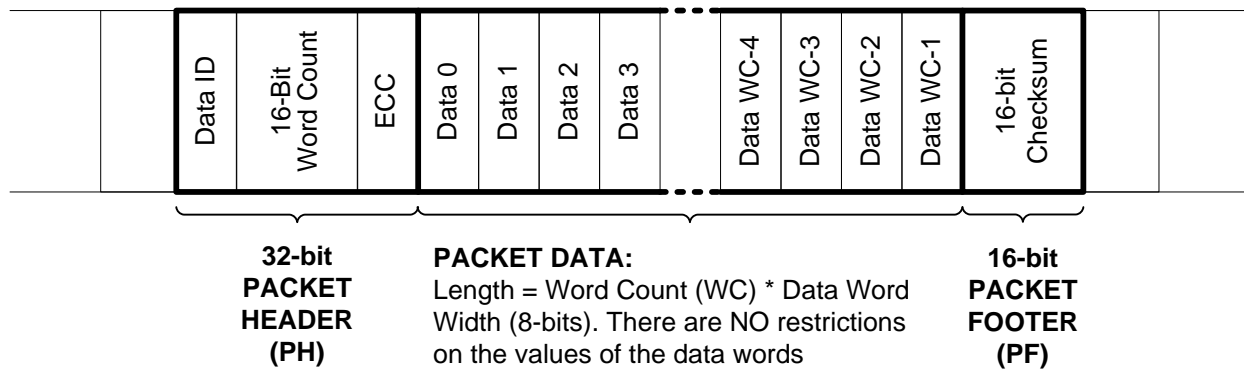

Figure 21. CSI-2 Long Packet Structure
A long packet consists of three elements: a 32-bit packet header (PH), an application-specific data payload with a variable number of 8-bit data words, and a 16-bit packet footer (PF). The packet header is further composed of three elements: an 8-bit data identifier, a 16-bit word count field, and an 8-bit ECC. The packet footer has one element, a 16-bit checksum. Figure 21 shows the structure of a long packet.